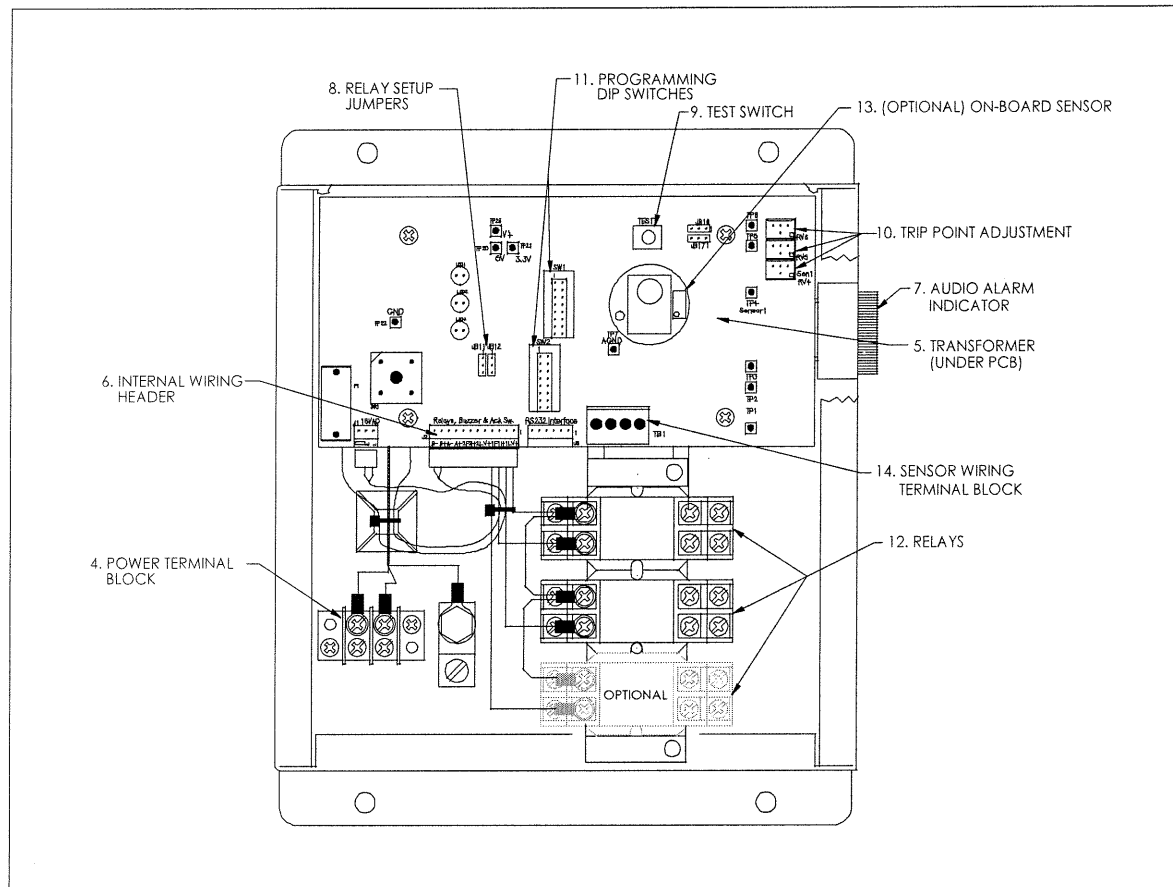
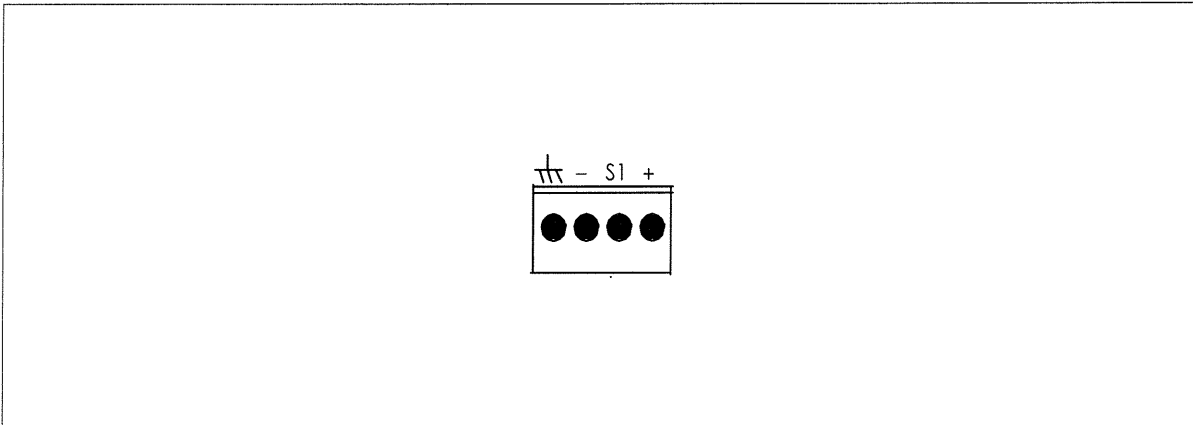

FIGURE 2: Internal Features of the Gas Monitor 1A1.
FIGURE 9: Sensor wiring terminal block.
Each transmitter, multidrop or remote sensor connects to a set of sensor terminals (-, S1, +) on the sensor wiring terminal block located on the circuit card, see Figure 2, item 14. The sensor wiring terminal block is located in the bottom right corner of the PCB and is capable of wiring inputs as shown in Figure 9. The following sections detail each of the remote transmitter or sensor wiring.